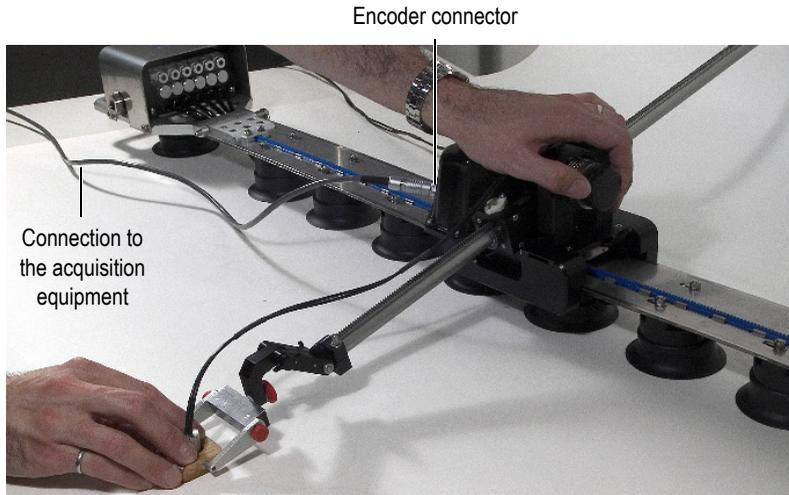

Figure 2-9 Connections to the scanner
14. Connect the probe cable to the acquisition instrument (see Figure 2-9 on page 24).
15. Connect one end of the encoder cable to the connector on the encoder module (see Figure 2-9 on page 24).